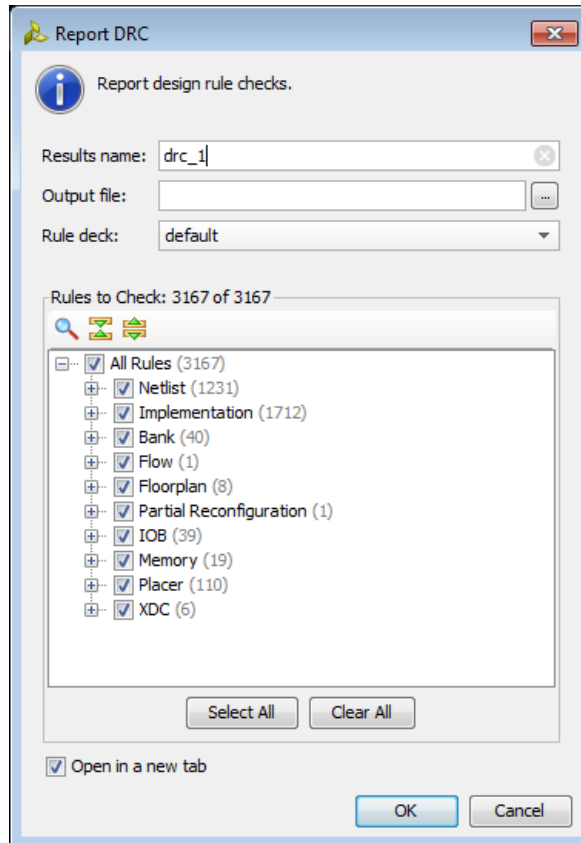

Figure 3-29: Report DRC Dialog Box
2. In the Report DRC dialog box (Figure 3-29), set the following options, and click **OK**: